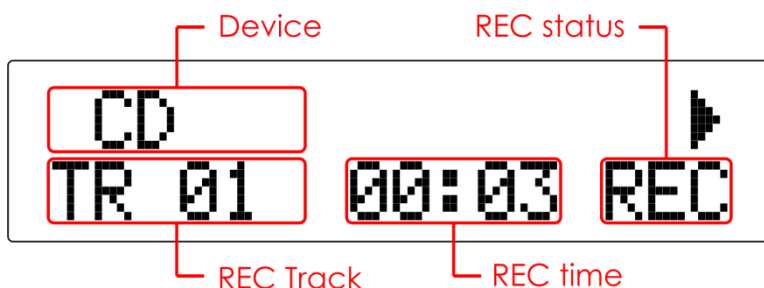

Fig. 09
- 03) After 3 seconds the unit will automatically start recording. While recording, the display looks as shown in fig. 09.